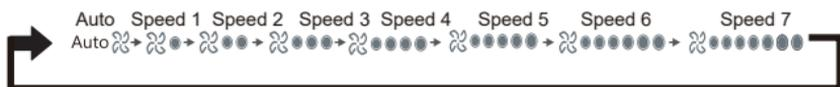

Figure 3.7
1) 7 fan speeds: The default in the remote controller is the mode with 7 fan speeds, where the Fan Speed will be adjusted in turn as shown in Figure 3.7;